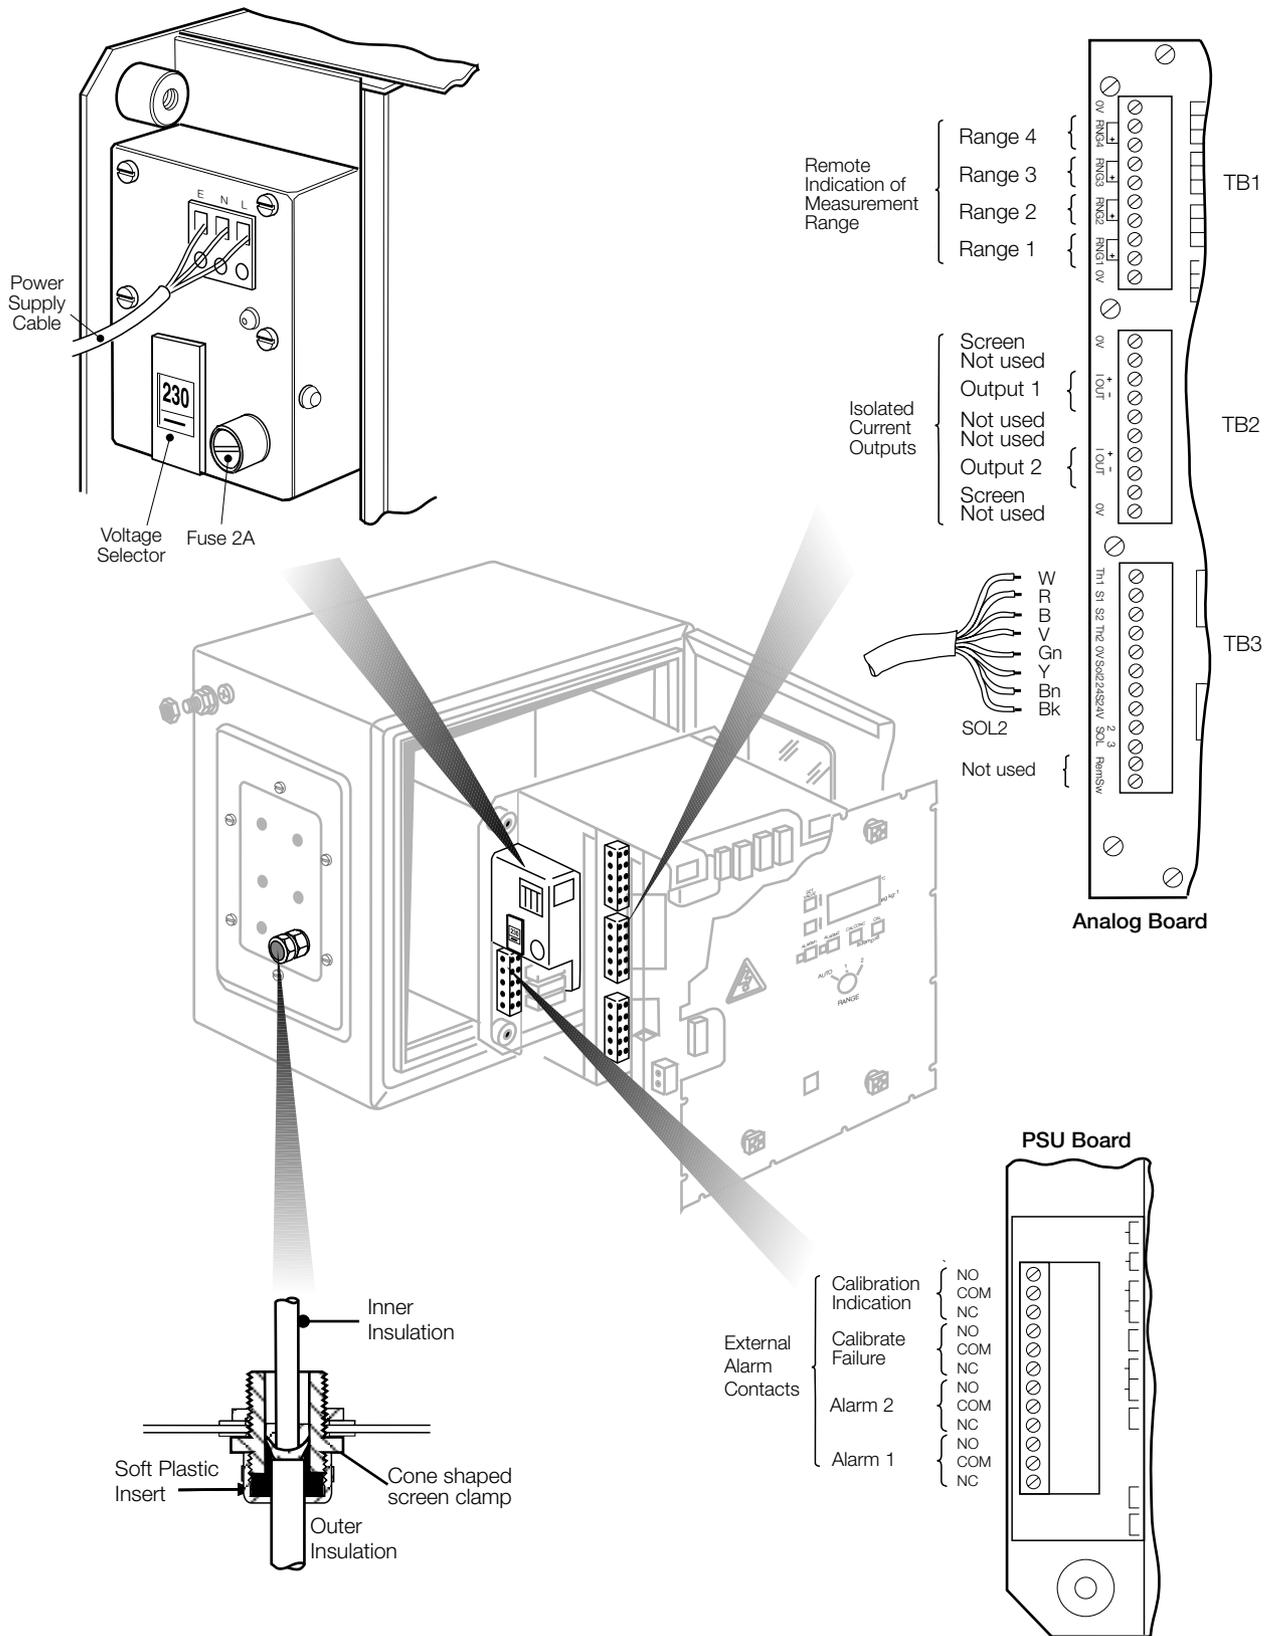

Fig. 2.8 Electrical connections at Transmitter Unit [Version without CE approval]
2.4.3 Transmitter Unit (Fig. 2.8)
- Noting that the screening braid terminates at the cable gland and is prepared as shown in Fig. 2.8, prepare the cable end and attach it to the terminal block TB3. The terminal block may be pulled off the pins on the board if required.
Caution. The terminal block for sensor unit connection has eight terminals, whereas there are 12 pins on the board. Ensure that the correct eight pins are chosen for connection; these are marked, on the PCB, with a separate 'box' – see the following text and Fig. 2.8.
Pass the remaining cables through the glands. Note that Pin 1 of each block is nearest the top of the case. Prepare the cable ends and attach them to the terminal blocks as follows – see also Fig. 2.8.